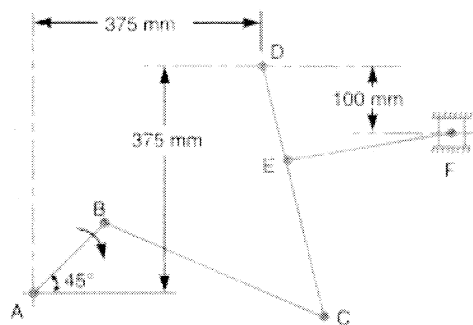

Figure 1
Q.2A. The mechanism, as shown in Fig.1, has the dimensions of various links as follows : AB